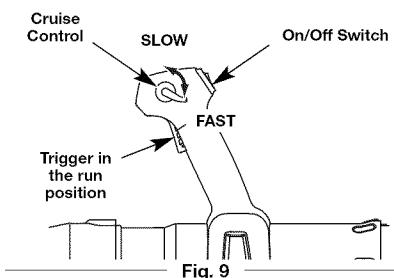

Fig. 9
**NOTE:** There is no need to turn the unit on. The On/Off Control is in the **ON (I)** position at all times (Fig. 9).
5. Press down the cruise control to lock the trigger into the **FAST** position (Fig. 9).
2. Press and hold the On/Off Control switch in the **OFF (O)** position until the engine comes to a complete stop (Fig. 9).
- Once the engine has started and warmed up, squeeze the trigger to accelerate the unit as needed (Fig. 9).
- For longer periods of operation and to eliminate possible finger fatigue, move the cruise control toward the FAST position to incrementally increase or maintain the unit's engine speed (Fig. 9). When the cruise control is pressed, the trigger will recede into the handle.
- To decrease engine speed, move the cruise control to the SLOW position and the trigger will return to idle position (Fig. 9).
- NOTE:** There is no need to turn the unit on. The On/Off Control is in the **ON (I)** position at all times (Fig. 9).
- Press down the cruise control to lock the trigger into the FAST position (Fig. 9).
- Press and hold the On/Off Control switch in the **OFF (O)** position until the engine comes to a complete stop (Fig. 9).
- Use the cruise control (Fig. 9) to keep the trigger depressed while operating to make continuous operation easier.